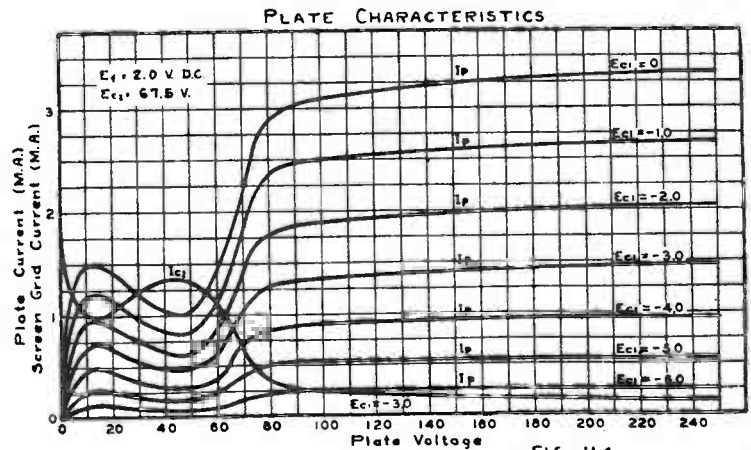

FIG. 114
- Plate Voltage—Plate Current ..... Fig. 114
- Plate Voltage—Screen Grid Current ..... Fig. 114